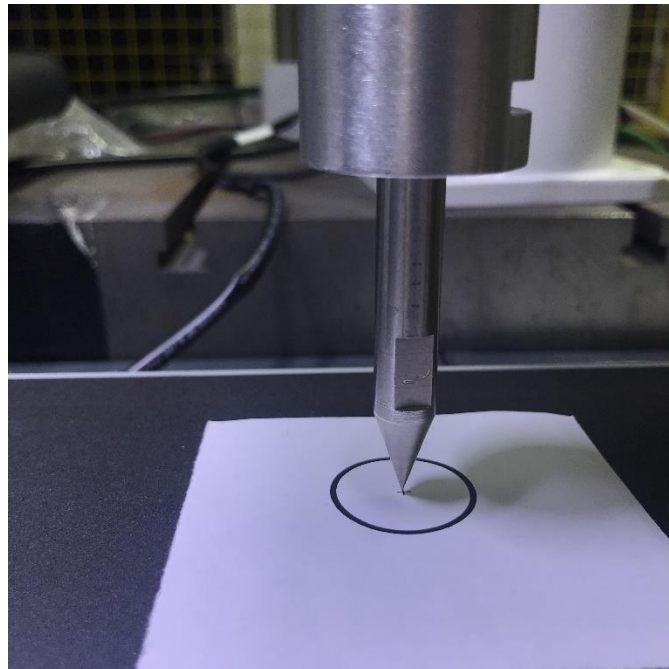

Figure 3.8 Conveyor calibration
Step 3 Enable the motor and jog the robot to the label position on the conveyor, and click **Get First Point** on the **First Point** section, as shown in Figure 3.8. We called this point as point A, which is the origin of the User coordinate system.